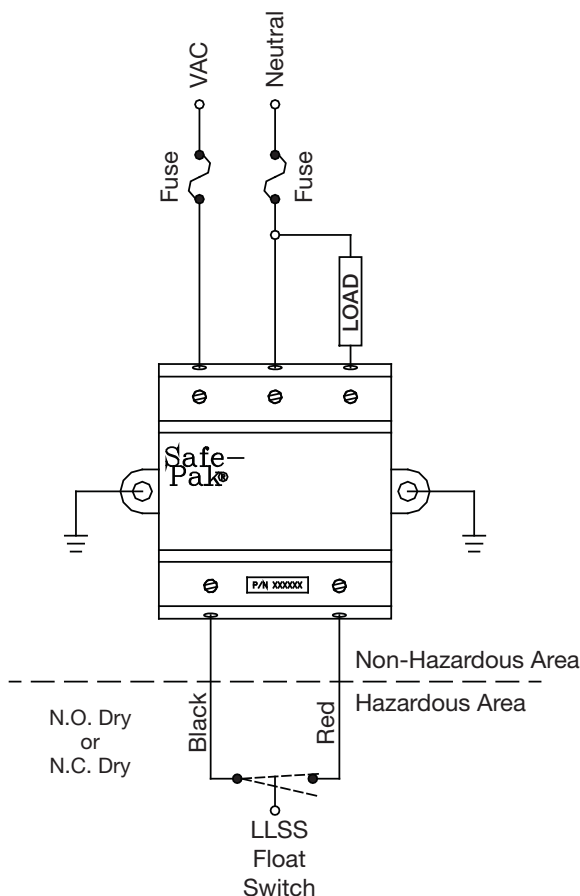

Fig. 1: Wiring Diagram
1. The SAFE-PAK must be mounted outside the hazardous area as shown in Figure 1